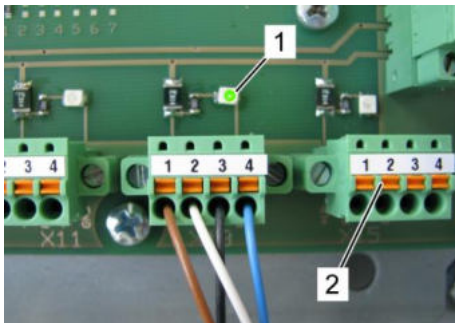

Fig. 116: Terminal box
1. Open the Terminal box and check all connected terminals for the respective LED (Fig. 116/1) being on.
2. If a LED is off remove the respective connector (Fig. 116/2).
- ↳ The LED (Fig. 116/1) must be on.